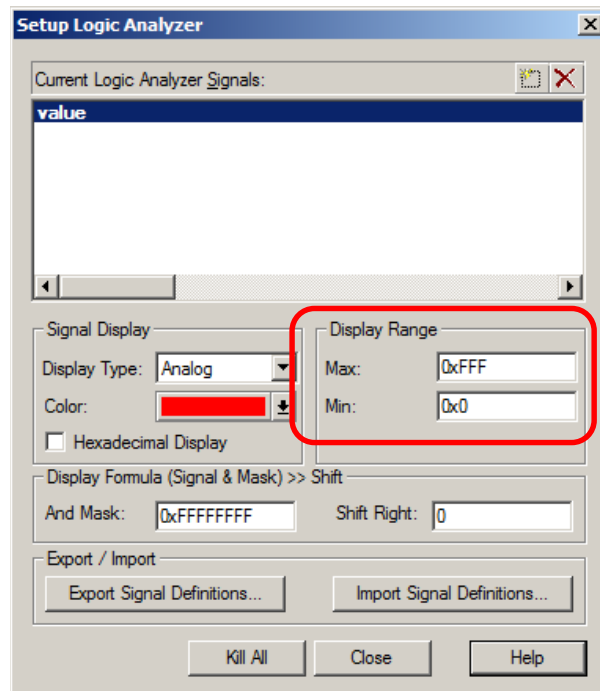

Figure 7. Logic Analyzer setup window – configure variable display range.
6. Click on the Select box and the LA Setup window appears (Figure 7). With **value** selected, set Display Range Max: to 0x15 as shown in Figure 7, and then click on Close.